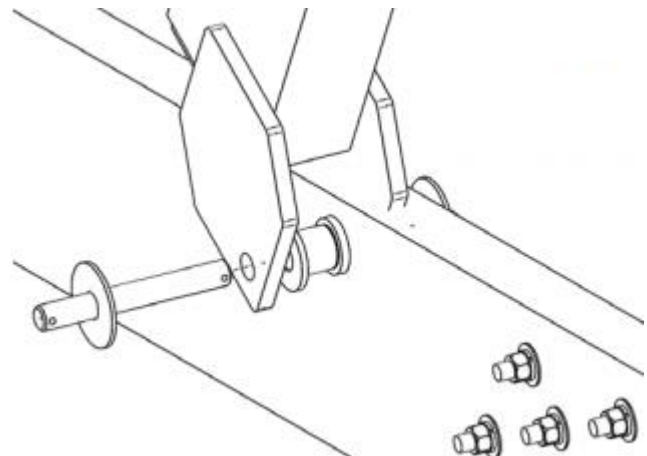

Figure 8
1. Align the mounting holes on the Stern Side H-Frame hinge plate with the Hinge Bushings located on the Side Beam as shown in Figure 8.
2. Insert one (1) 1/8" Cotter Pin into one (1) 3/4" x 5" Hinge Pin, bending the tines of the Cotter Pin outward and apart, securing the Cotter Pin within the Hinge Pin.
4. Slide the Hinge Pin through the hinge plate as shown in Figure 8.
5. Insert one (1) Lollipop Washer and one (1) 1/8" Cotter Pin into the protruding end of the Hinge Pin, bending the tines of the Cotter Pin outward and apart, securing the Cotter Pin within the Hinge Pin.